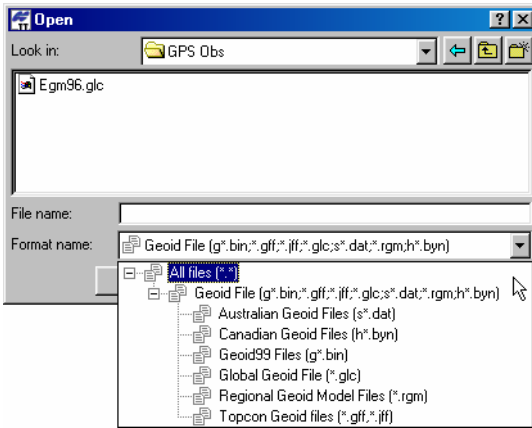

Figure A-1. Geoid File Format Selection
2. On the **Open** dialog box, select the Global Geoid Files format and the EGM96.glc file (Figure A-1), then click **Open**.